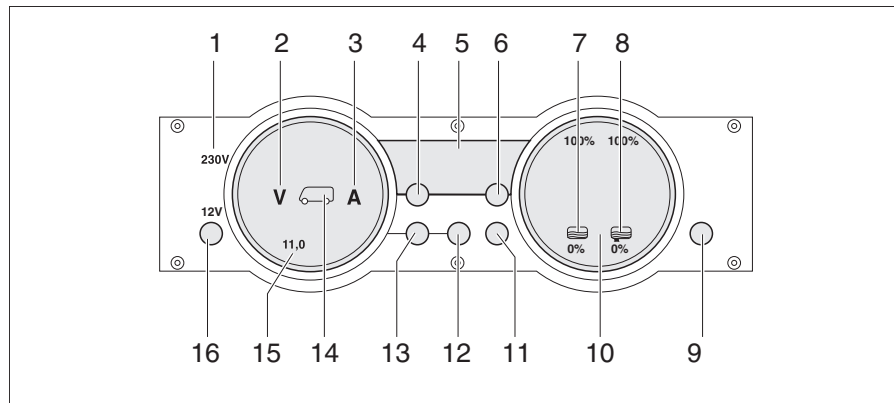

Fig. 246 Panel MP 20-S
The 230 V indicator lamp (Fig. 246,1) lights up whenever line voltage is available at the transformer/rectifier input.
The 12 V main switch (Fig. 246,16) switches the panel and the 12 V power supply of the living area on and off.
- Briefly press the "12 V" button (Fig. 246,16). The 12 V living area power supply is switched on. The "12 V" indicator lights up.
- ▷ If, after switching on, the "11.0" LED of the volt indicator and the "V" volt symbol (Fig. 246,2) in the batteries gauge (Fig. 246,15) flash, the voltage of the living area battery is too low. Charge battery.
- ▷ If, after switching on, the "12 V" indicator, the symbol for the living area battery (Fig. 246,14) and the "V" volt symbol (Fig. 246,2) flash three times, battery separation is activated. Deactivate battery separation.
- Briefly press the "12 V" button (Fig. 246,16). The 12 V living area power supply is switched off. The "12 V" indicator goes out.
- Press button for living area battery (Fig. 246,12) and hold it down for approx. 10 seconds. The "V" volt (Fig. 246,2) and "A" ampere (Fig. 246,3) symbols flash three times. The living area battery is disconnected from the 12 V power supply.
- Press the living area battery  button (Fig. 246,12). The "V" volt symbol (Fig. 246,2) lights up. Depending on whether the battery is being charged or discharged, the "A" ampere symbol lights up white or red respectively. The battery voltage and current of the living area battery are displayed using the LEDs in the gauge.
- Press the starter battery  button (Fig. 246,13). The "V" volt symbol (Fig. 246,2) lights up. The battery voltage of the starter battery is displayed using the LEDs in the gauge.
- Press the Tanks  button (Fig. 246,11). The water tank  (Fig. 246,7) and waste water tank  (Fig. 246,8) symbols light up. The fill level of the water tank (left-hand scale) and the waste water tank (right-hand scale) are indicated using the LEDs in the gauge.
The "V" volt symbol (Fig. 246,2) and the "11.0" LED flash as soon as the battery voltage falls below 11 V (measured during operation) and there is the threat of a total discharge.
The water tank symbol  (Fig. 246,7) or waste water tank symbol  (Fig. 246,8) flashes when the water tank is empty or the waste water tank is full.